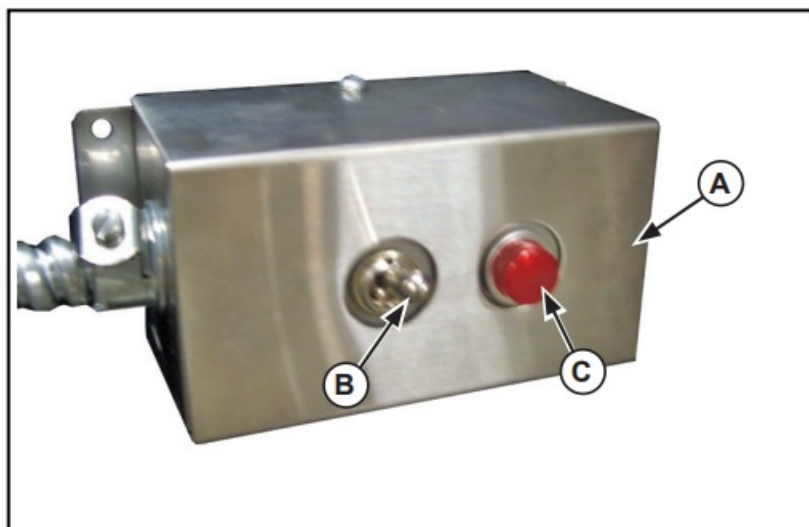

Figure 3. Control Box, Switch and Light.
7. Mount the auto-fill control box (A) at any convenient dry location close to an access door. See Figure 3.